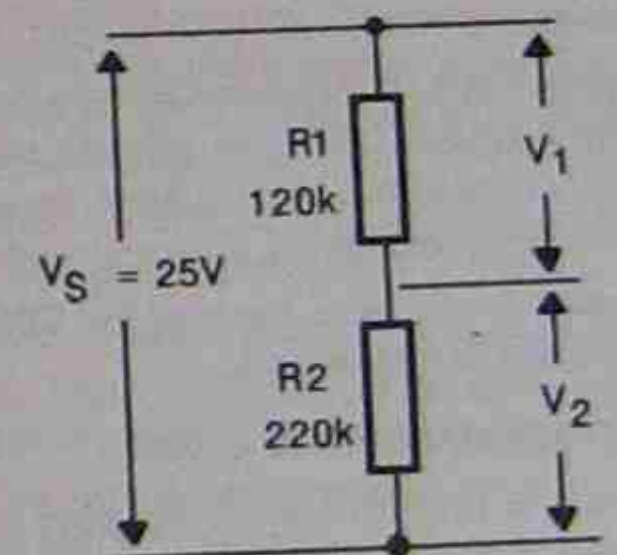

Fig.2
2. For the circuit of Fig.2, calculate the values of V_1 and V_2 .
3. For the circuit of Fig.2, calculate the reading that will be shown by a voltmeter with a sensitivity of 10k ohms/volt set to its 10V scale.